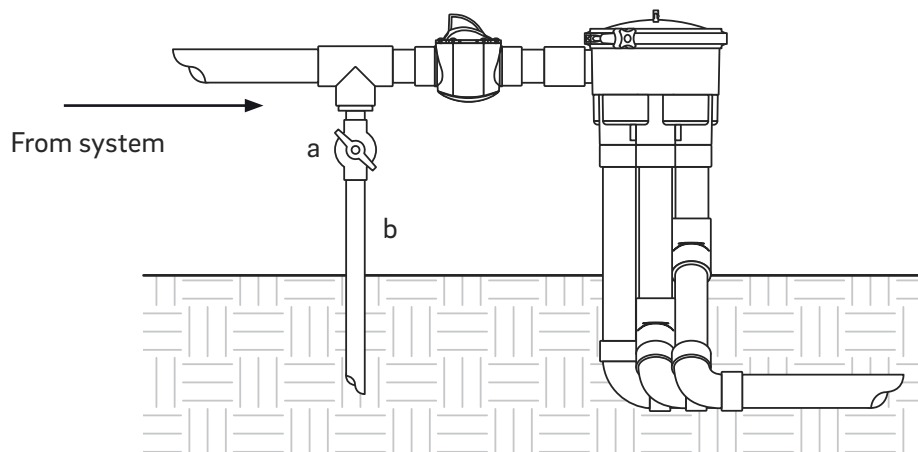

Figure 4
2. To deliver water to the venturi nozzle inside the skimmer, install a Tee fitting on the return line after the filter and before the in-floor valve (Figure 4). Following the branch of the Tee, add a 2-way shut-off valve (Figure 4a) and a minimum of 1.5 inch schedule 40 PVC (Figure 4b) as the feed line to the QuikSkim Ultra's venturi nozzle; reduce the pipe size as needed.
Proper flow to the venturi nozzle can be set by adjusting the shut-off valve installed before the water-valve (Figure 4).
Shut off flow to the venturi line completely by closing the shut-off valve installed on the return line before the water-valve (Figure 4).